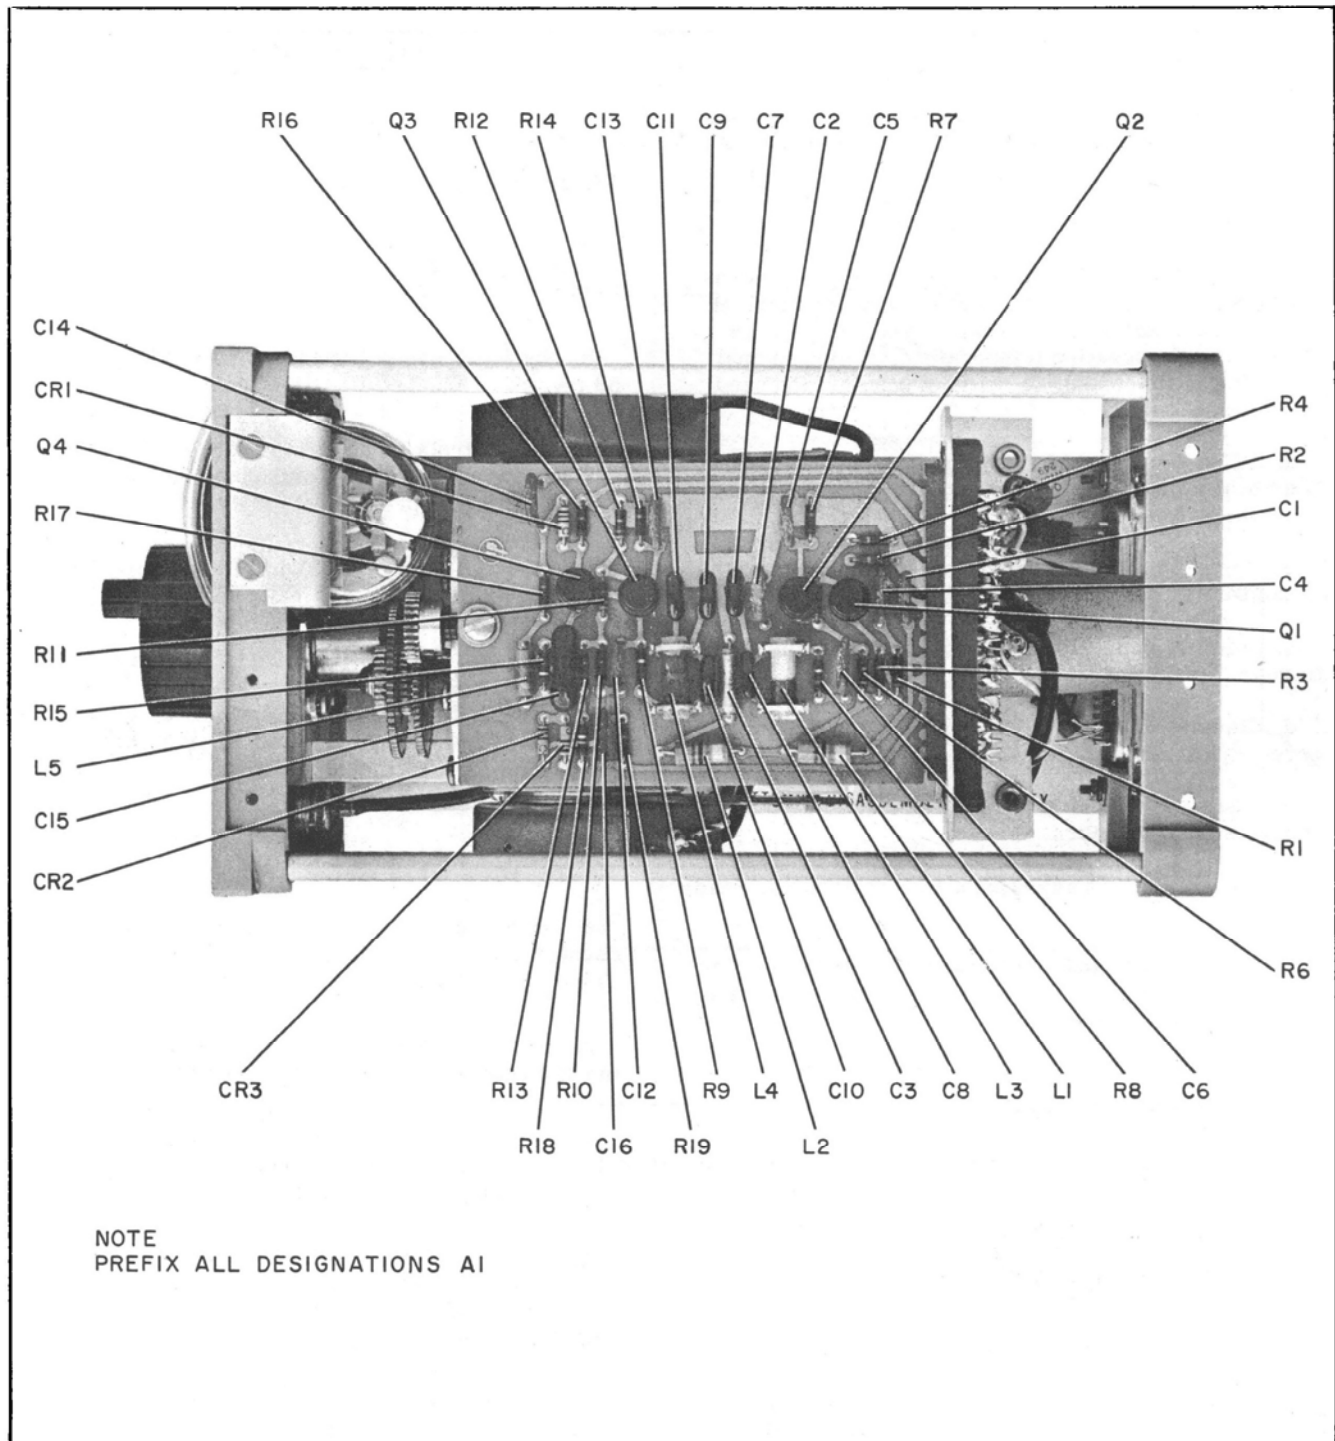

Figure IIA-4. Model 5253A, Top View
f. Using plastic tool, adjust variable inductor ALL4 (see Figure IIA-4) for minimum reading of RF Millivoltmeter.
h. Using plastic tool, adjust variable inductor ALL3 (see Figure IIA-4) for minimum reading of RF Millivoltmeter.